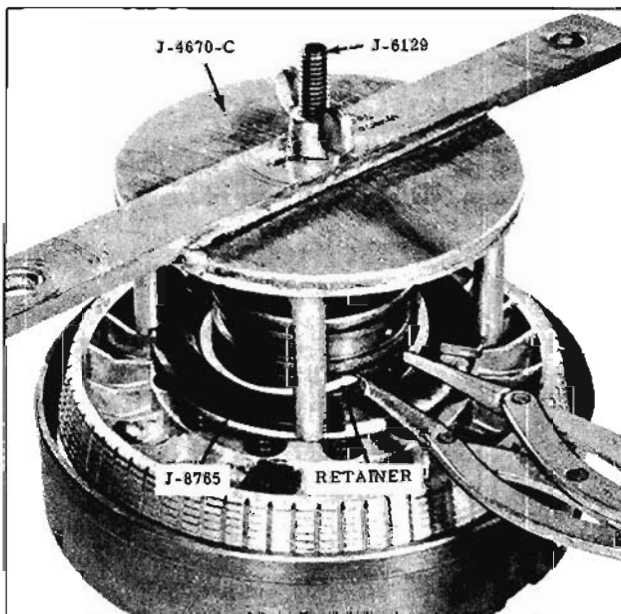

Fig. 6-59 Removing Reverse Release Spring Retainer
2. Using Tools J-8765, J-6129, and J-4670-C, remove reverse release spring retainer snap ring. (Fig. 6-59)
11. Using Tools J-8765, J-6129 and J-4670-C, compress release springs. (Fig. 6-59)